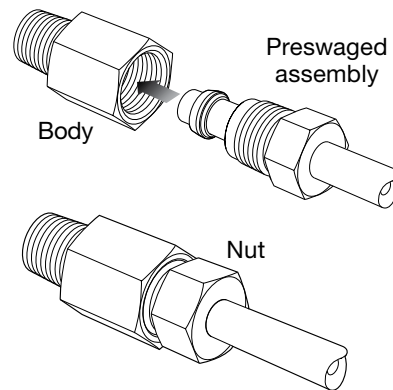

Fig. 4 Installing Preswaged Assembly into Fitting Body
- Install the preswaged assembly into the fitting body. Turn the nut onto the fitting body until it is finger-tight. See Fig. 4.